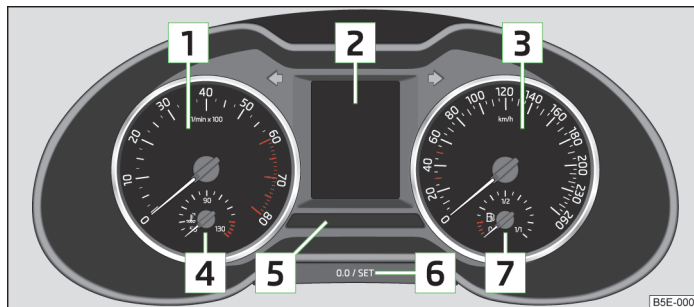

Fig. 2 Instrument cluster
- Never operate the button **6** in the instrument cluster » Fig. 2 on page 8 while driving, only when the vehicle is stationary!
The red scale of the rev counter **1** » Fig. 2 on page 8 indicates the range in which the system begins to limit the engine speed. The system automatically restricts the engine speed to a steady limit.
» Briefly press the button » Fig. 2 on page 8.
- » Press and hold the button » Fig. 2 on page 8 until the **Time** is shown in the display.